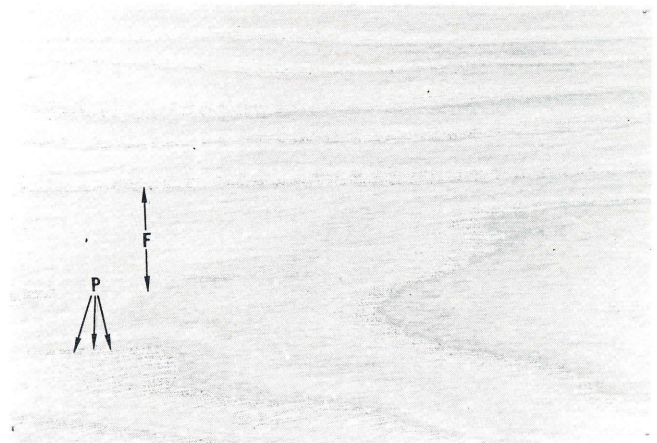

Figure 16—White Ash. Earlywood pores, P, poreless smooth areas, F.
19. Not exceptionally hard or heavy, pores in earlywood in continuous band; on tangential face pores show as wider bands (Fig. 16 and 17) **go to 20**
20. Latewood with isolated 2 celled pores seen on cross section, poreless areas with few striations on latewood radial surface (Fig. 16) **Ash**